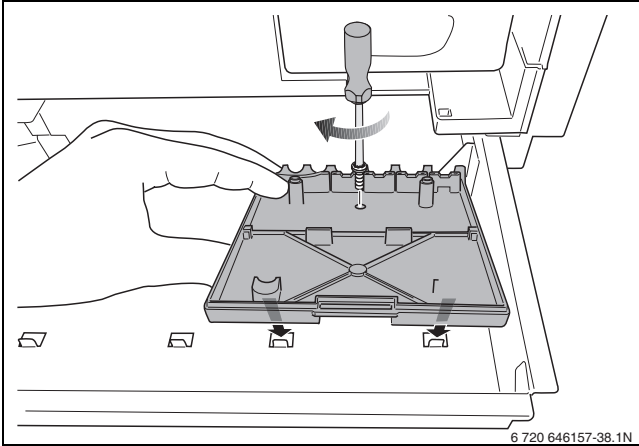

Fig. 41 Installing the wall bracket
- ▶ Install the wall bracket in the relevant slots in the drawer (→ fig. 41).